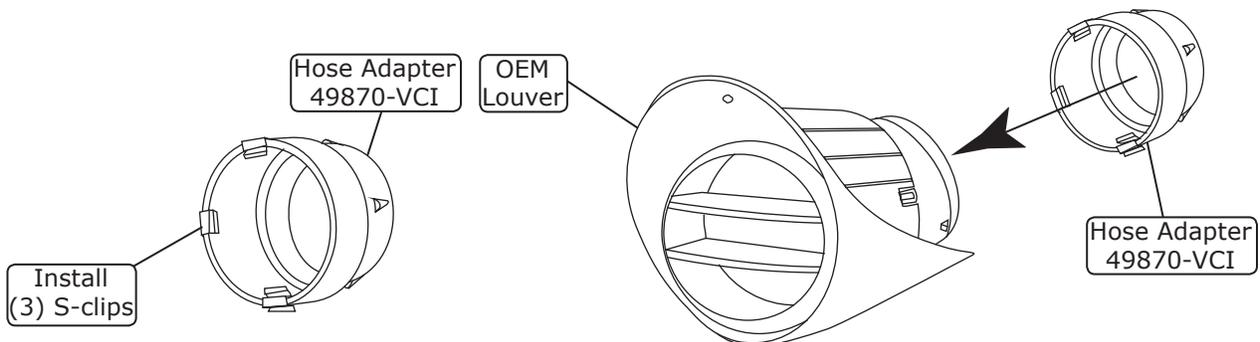

Figure 5
1. Install (3) S-clips onto the hose adapters as shown in Figure 5, below.
2. Install the driver and passenger side hose adapters outside the OEM louvers (See Figure 5, below).